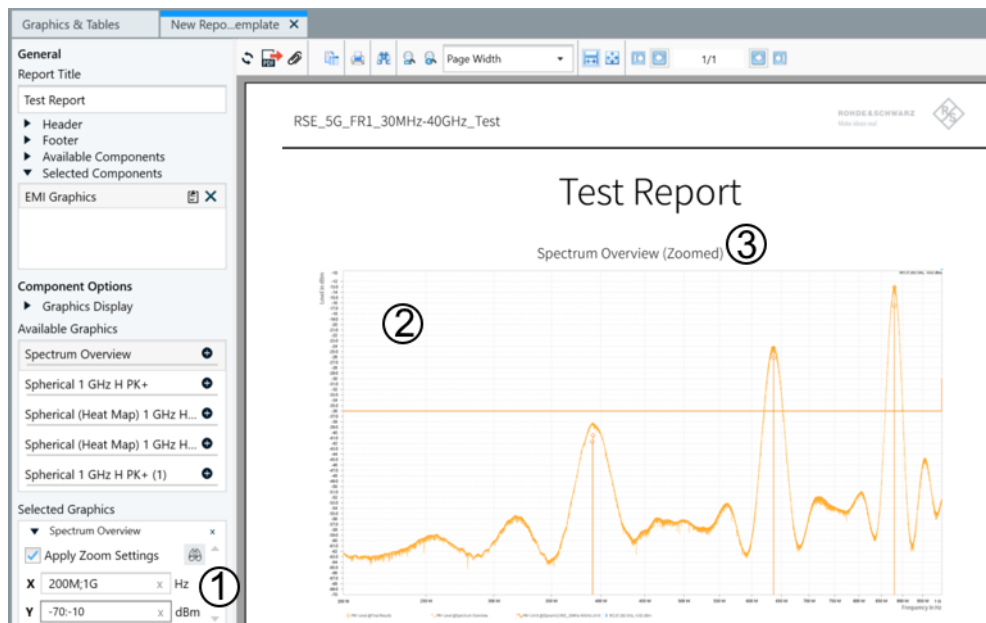

Figure 4-34: A test report with a chart that has correct zoom parameters configured
6. To let your settings take effect for the report, enable the "Apply Zoom Settings" checkbox (1 in Figure 4-34).